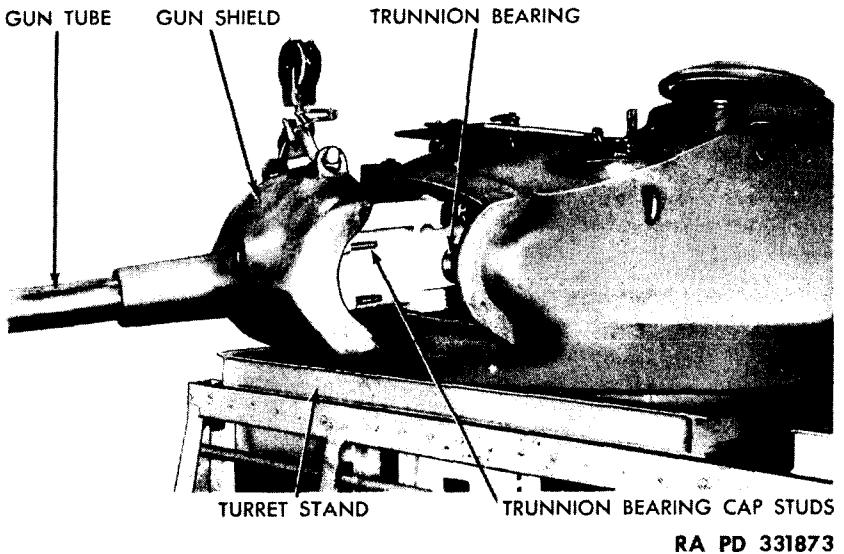

Figure 73. Installing 75-mm. gun and shield (M24).
j. ASSEMBLE 75-MM. GUN AND GUN MOUNT TO TURRET. Attach a hoist to lifting eyes of gun shield, and raise gun into position in front of opening of turret (fig. 73). Elevate muzzle and carefully maneu-